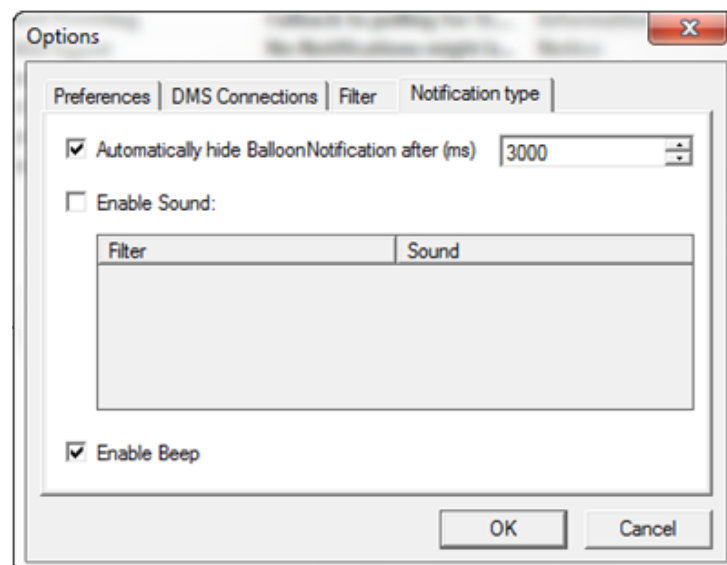

Figure 17-14 Options window | Notification type tab
5. To play the computer's default beep sound (instead of specified sounds) when a popup balloon opens, select the **Enable Beep** option on the **Options** window. See Figure 17-14.